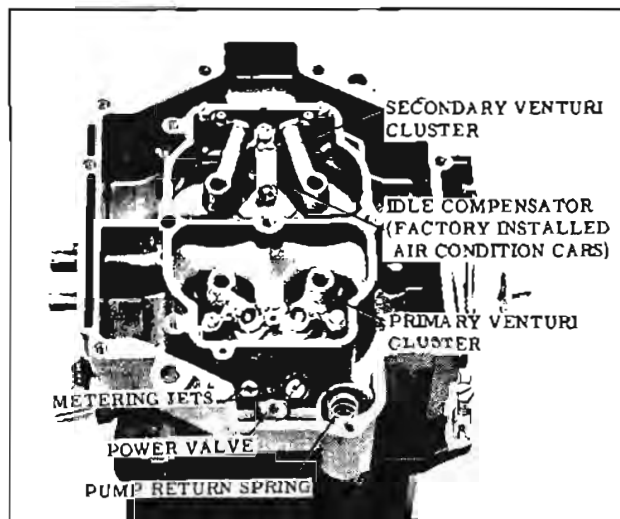

Fig. 9-176 Float Bowl Assembly
6. Remove the three attaching screws and lock washers from the venturi cluster on the primary side, then remove the cluster and gasket. (Fig. 9-176)